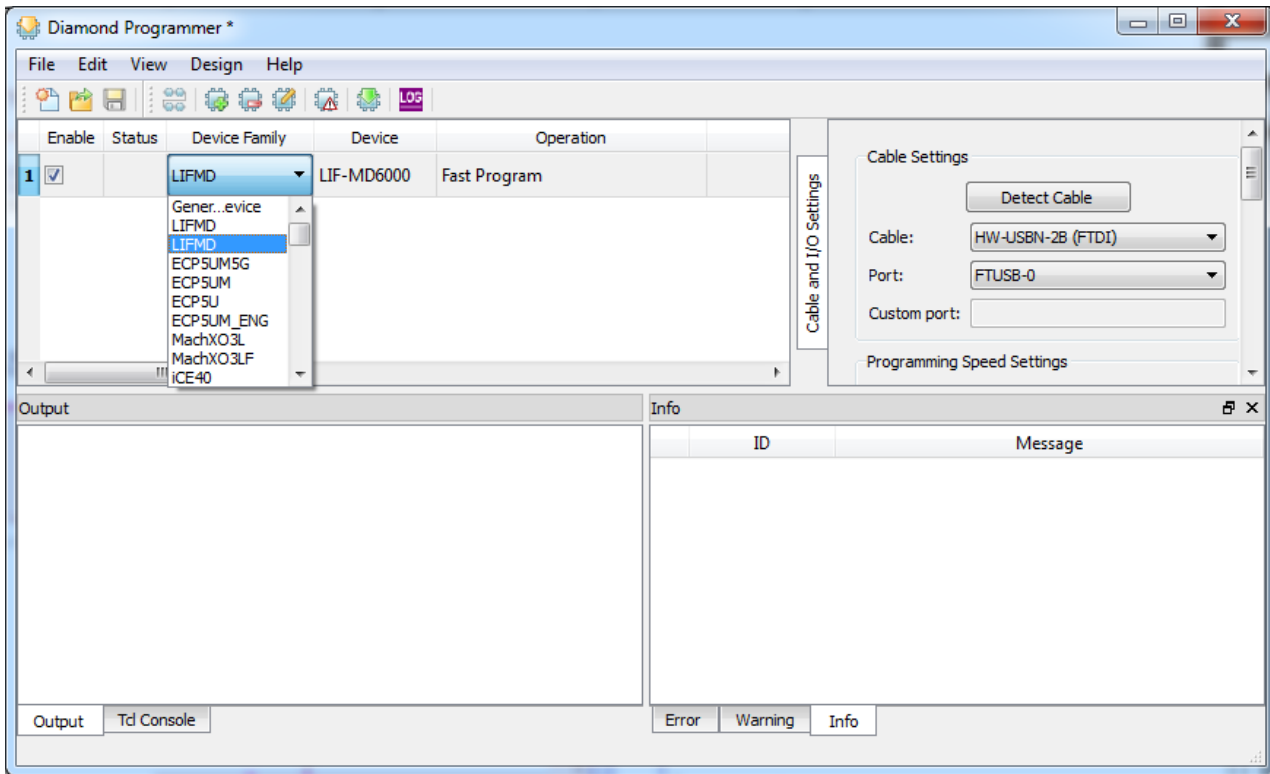

Figure 6.29. CrossLink Family – Device Family List
2. Manually select the device by choosing the following options as shown in Figure 6.29.